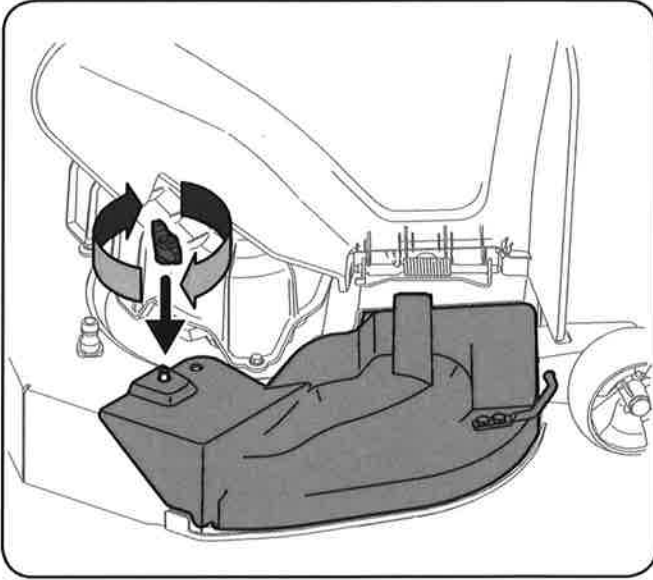
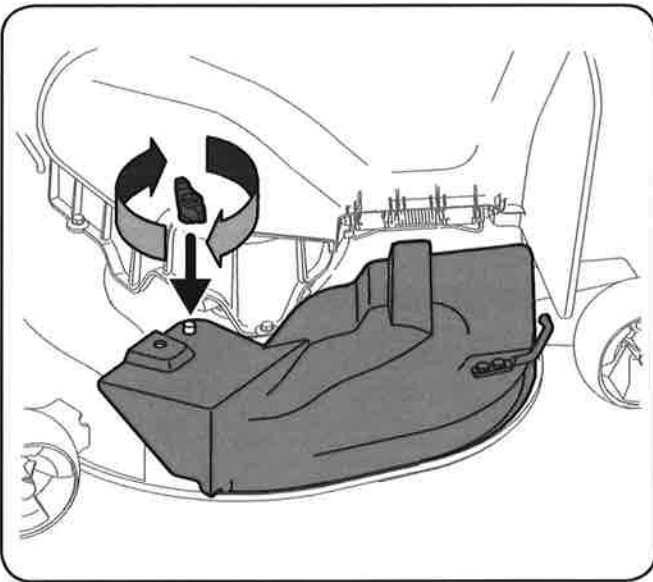

Figure 1-7
Figure 1-8
- Secure the mulch plug in place with the wing knob. See Figure 1-7 (*fabricated decks*) or Figure 1-8 (*stamped decks*).